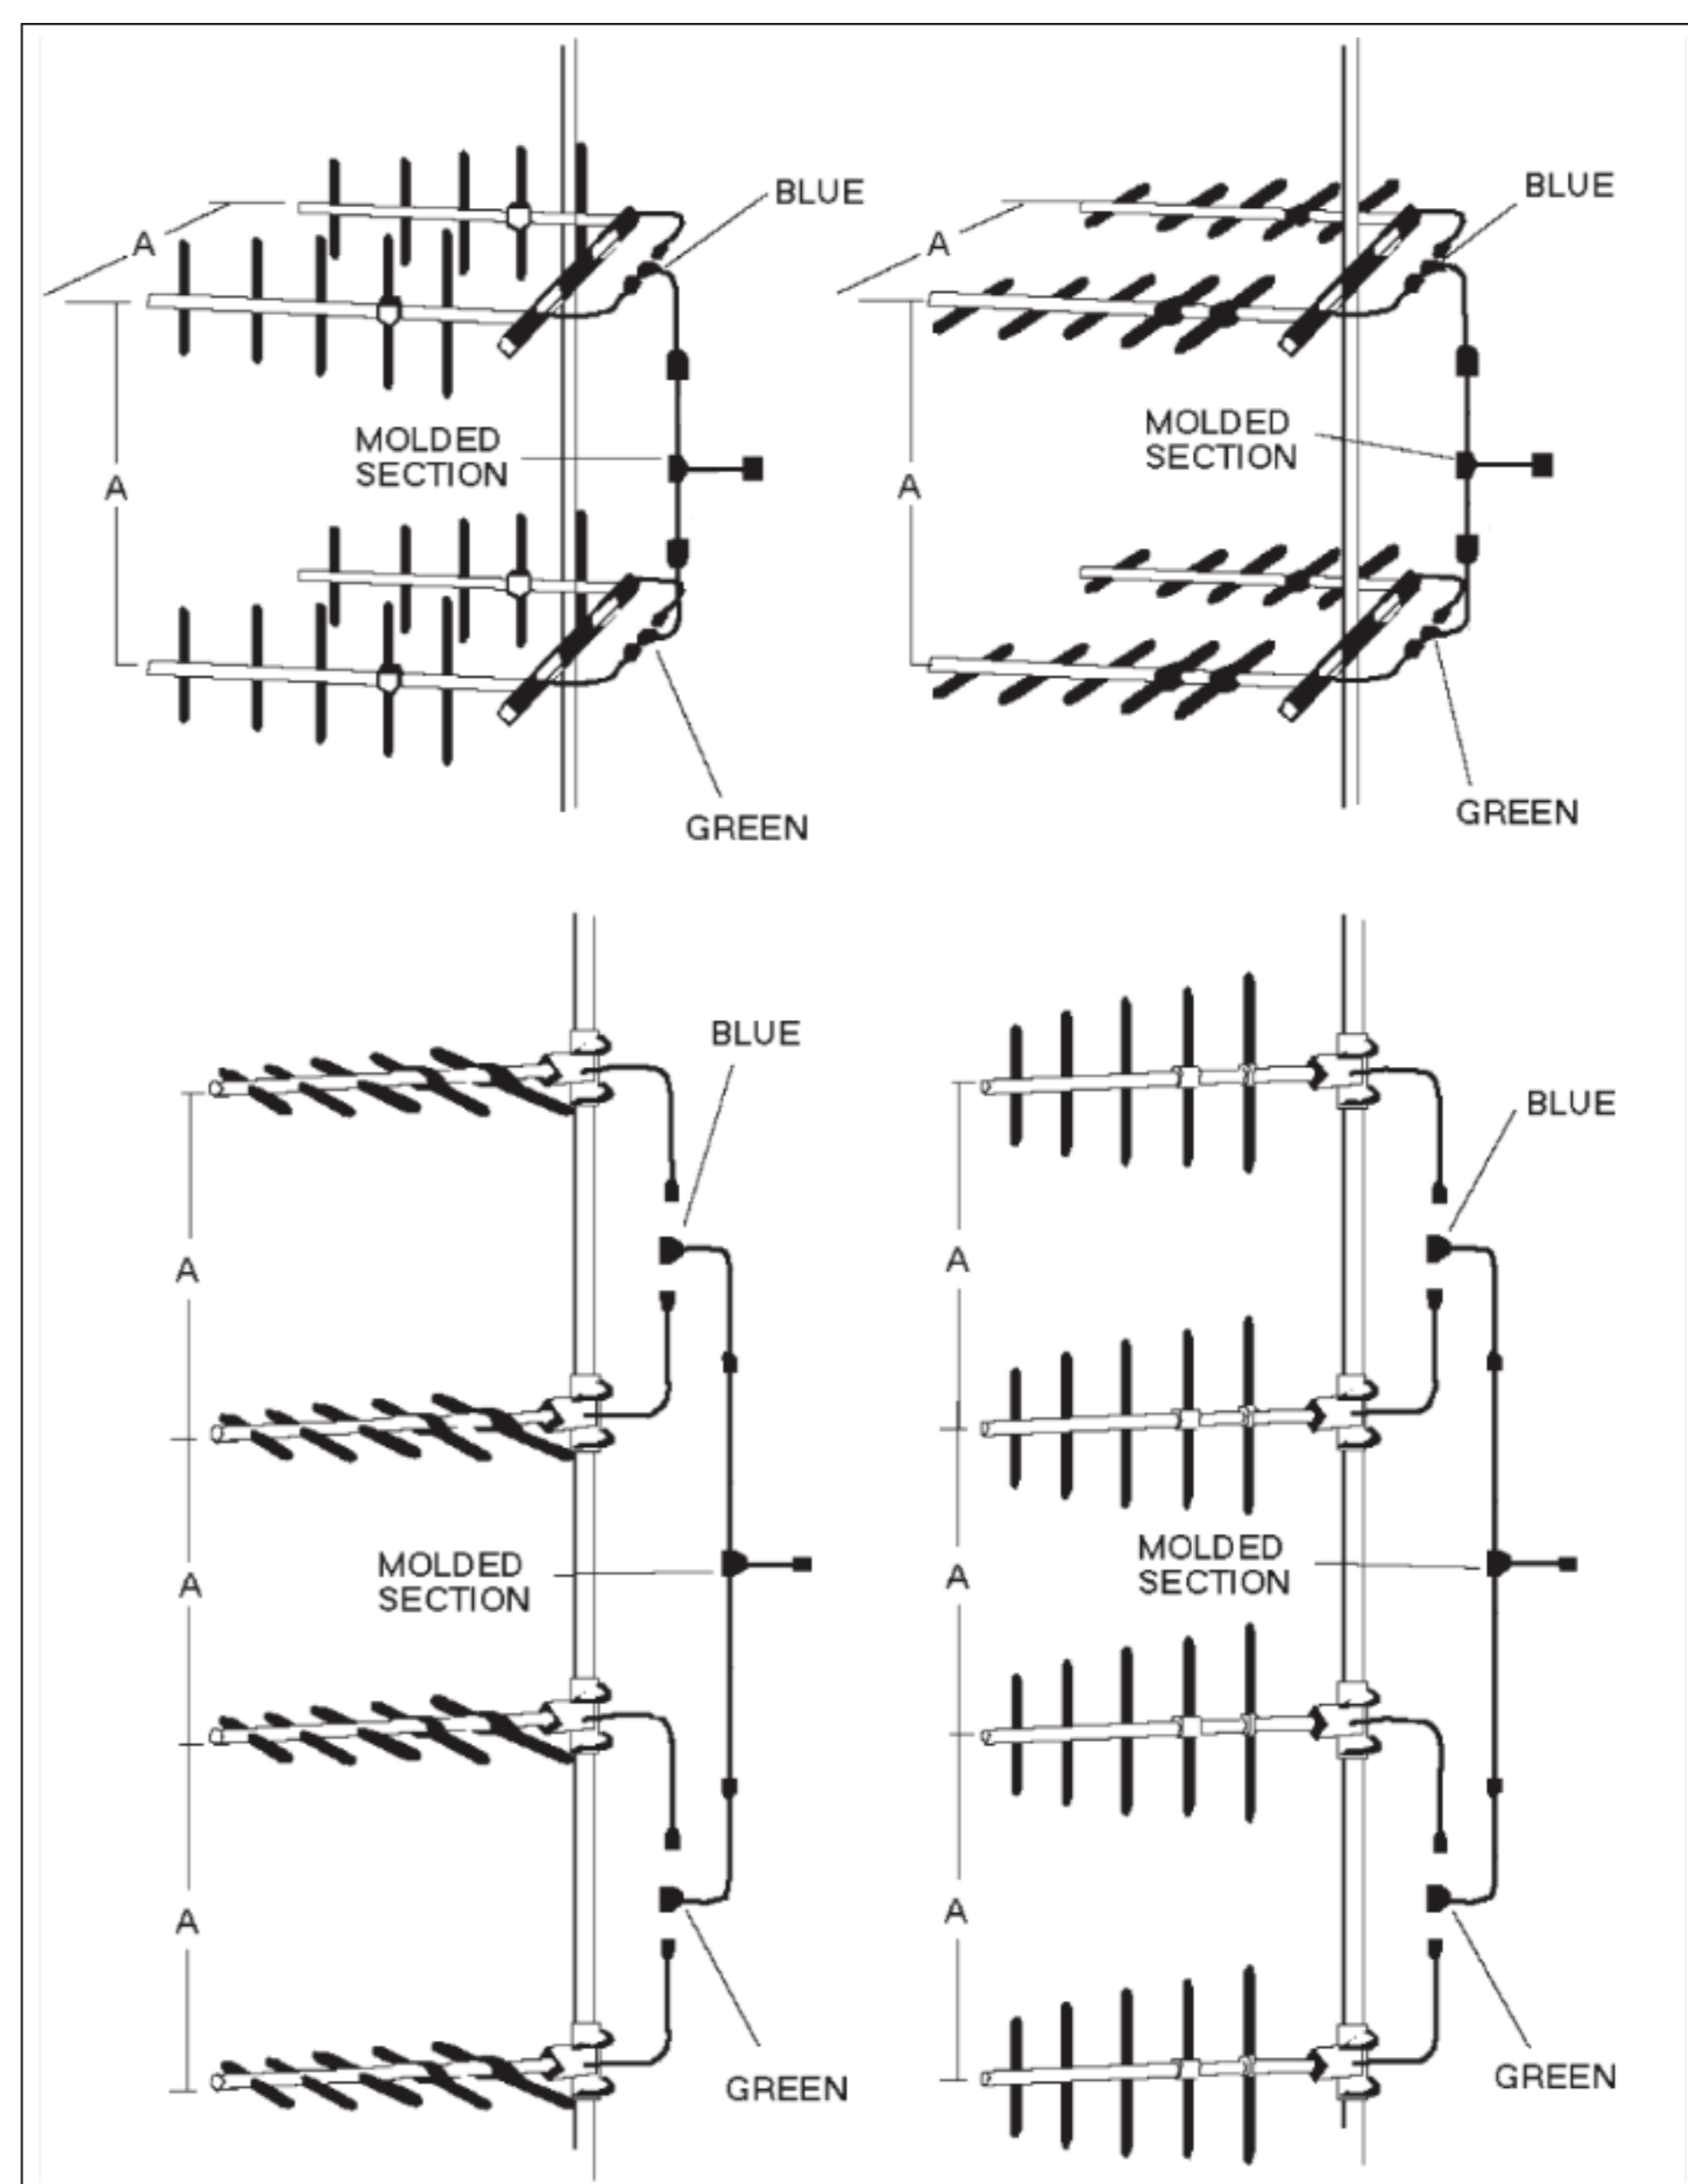

Figure 6 - DB436
The DB436-4 antenna consist of four multi-element yagi DB436 antenna with a phasing harness to connect the four units together. Refer to Figure 6 when performing this procedure.
6. At this point, the four individual antennas should be mounted. Connect the four units together with the DB436-4 phasing harness (see Figure 6) matching the color code.